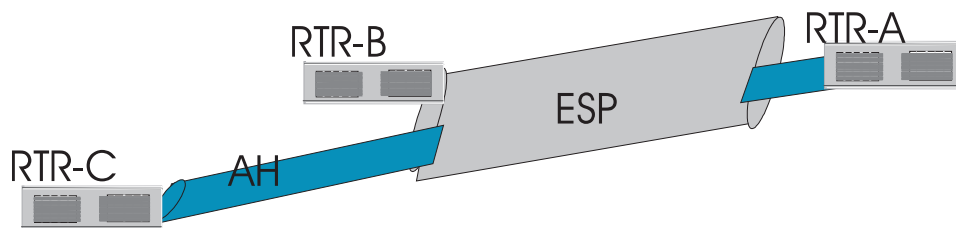

Figure 67. Tunnel in a Tunnel
1. You are then asked if the negotiated IPsec tunnel flows into another tunnel. This relates to the tunnel-in-tunnel feature which was first shipped in V3.2 of the code. A scenario for tunnel-in-tunnel is shown in Figure 67: